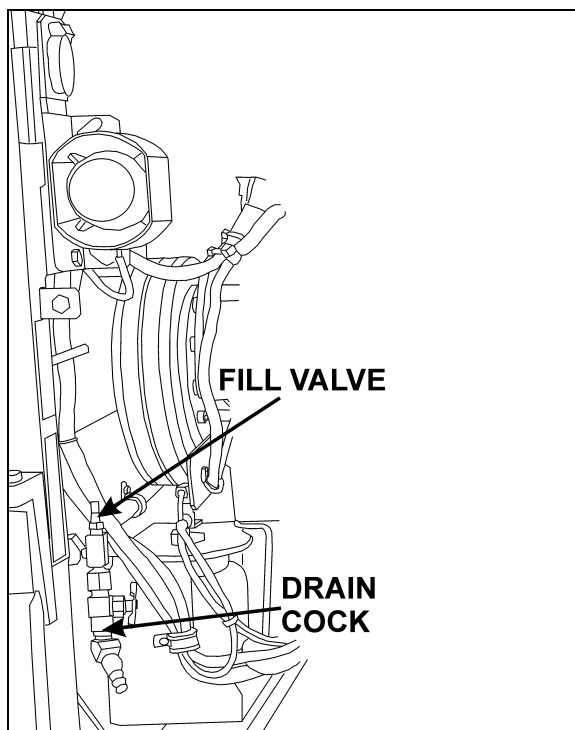

FIGURE 51: REAR VALVE LOCATION
A remote valve located in engine compartment and accessible through engine R.H. side door is used to **drain** the air dryer (Fig. 51).
**The rear valve** is located in engine compartment and accessible from engine R.H. side door (Fig. 51).